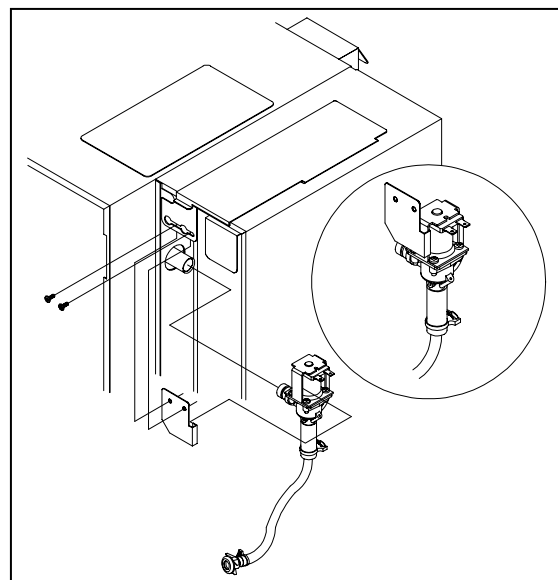

Figure 5 - Install the valve onto the "T" inside A.P.P.
5. Inside the A.P.P., install the new valve onto the "T" (*figure 5*).